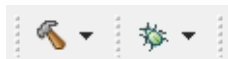

Figure 28: *Code Composer Studio* build and debug buttons
5. Build the project in *Code Composer Studio* by clicking **Project** → **Build all** or by clicking on the **Hammer** symbol as seen in Figure 28 at the top of the screen. Check for errors while building in the console at the bottom of the screen.
6. If your target is connected to the computer click **Run** → **Debug** or click on the *Bug* symbol as seen in Figure 28 at the top. The program is now transferred to the target and can be started with the **green arrow** button at the top.